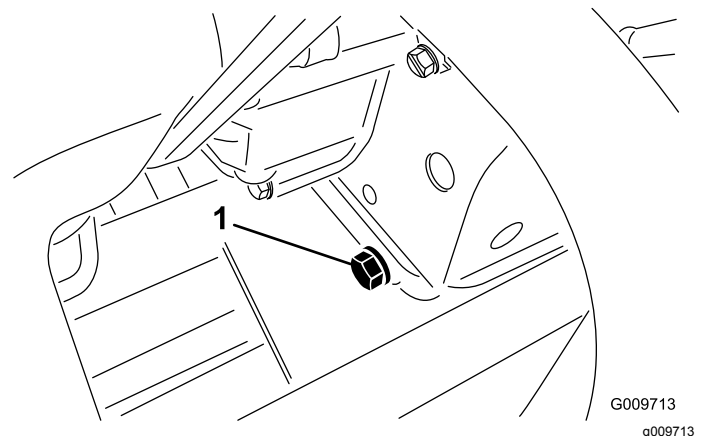

Figure 53
2. Remove the drain plug (Figure 53) and let the oil flow into a drain pan.